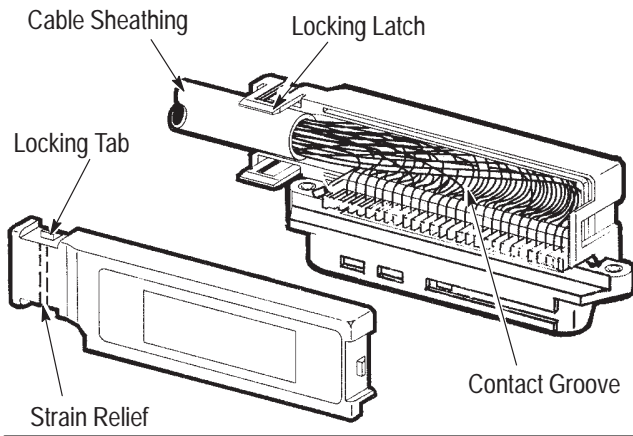

Figure 5
1. Grip the connector firmly with one hand, then draw the other hand over the wires and toward the proper end of the connector – forming the wires as indicated in Figure 5. Do NOT overwork the wires.